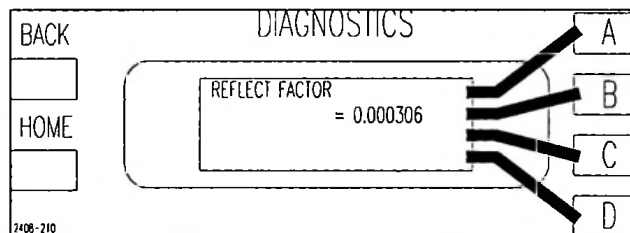

Figure 5-7 Reflected Calibration Factor Screen
- STEP 4** Press [HOME, MORE, CONFIGURATION C,A,B]. Set the value of "REFLECT FACTOR" to **0.000306**, see Figure 5-7. To access the edit controls for the screen press and hold the [D] and then press the [C] button. Press [BACK] to save changes.
- REFLECT FACTOR from Figure 5-7 on page 5-14.
Reflect Factor	0.000306 (see Figure 5-7)